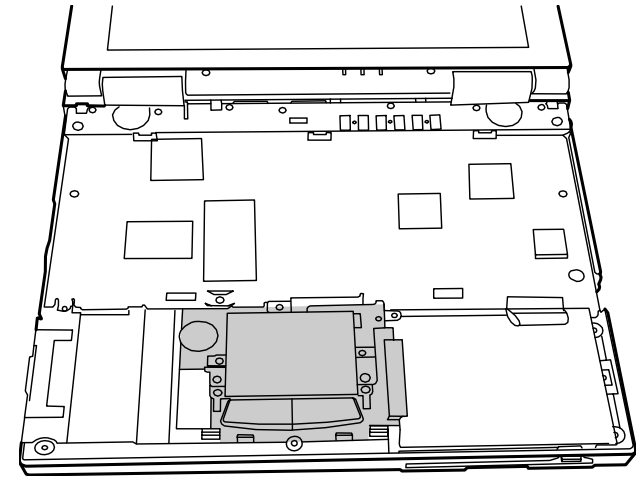

Figure 5-31. Removing the Touchpad Board
1. Fit the touchpad board into place. (Refer to Figure 5-31 earlier.)
5. Replace the touchpad board by plugging the connector. (Refer to Figure 5-31 earlier.)